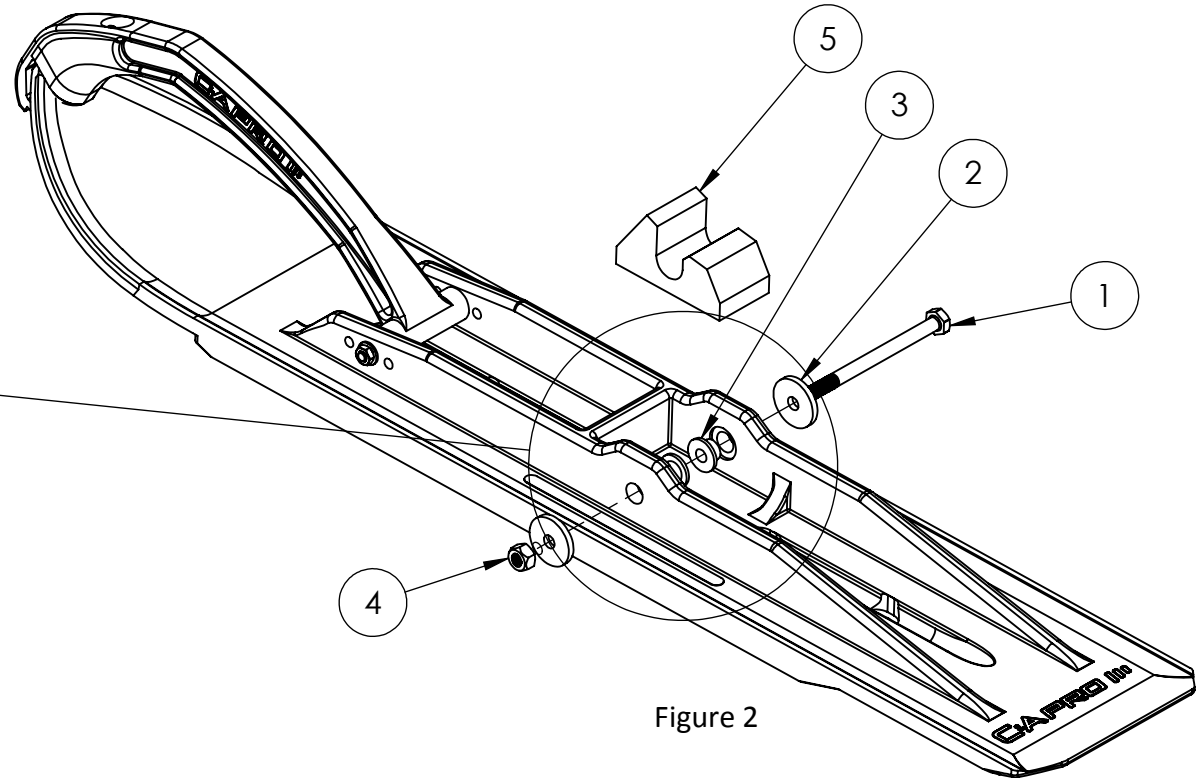

Figure 2
5. Place the rubber dampener in the ski. (see Figure 2 for dampener orientation)